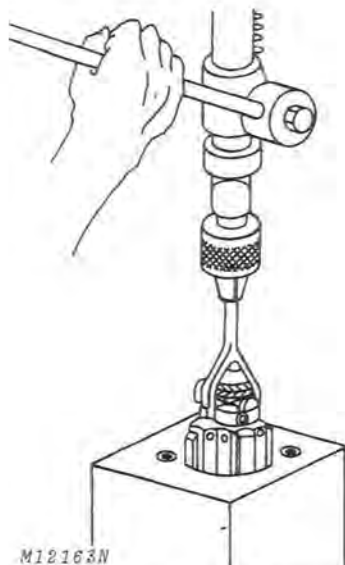

Fig. 14-Honing the Cylinder
6. Start the drill. Move the hone up and down in the cylinder approximately 40 cycles per minute, Fig. 14. Follow the hone manufacturer's recommendations.